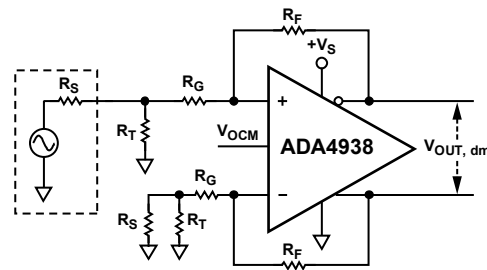

Figure 60. ADA4938-1/ADA4938-2 Configured for Unbalanced (Single-Ended) Input
For an unbalanced, single-ended input signal (see Figure 60), the input impedance is
**Table 11. Single-Ended Ground-Referenced Input, DC-Coupled, RS = 50  $\Omega$ ; See Figure 60**